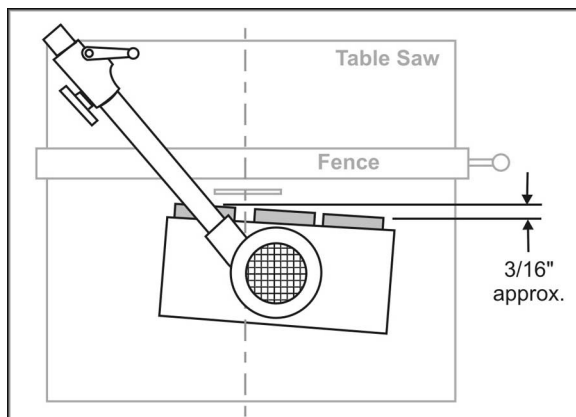

Figure 19
- Position the 3-roller stock feeder so that the axis of the saw blade lines up between the center roller and outfeed roller. (See Figure 19.) Position the 4-roller stock feeder so that the axis of the saw blade lines up between the center wheels. These positions will allow the Stock Feeder to grip the outcut of the workpiece as it leaves the blade.
- Rotate the Stock Feeder so that the direction of feed is angled slightly toward the fence by approximately  $3/16"$  (5mm); that is, the outfeed roller should be slightly closer to the fence than the infeed roller. See Figure 19.